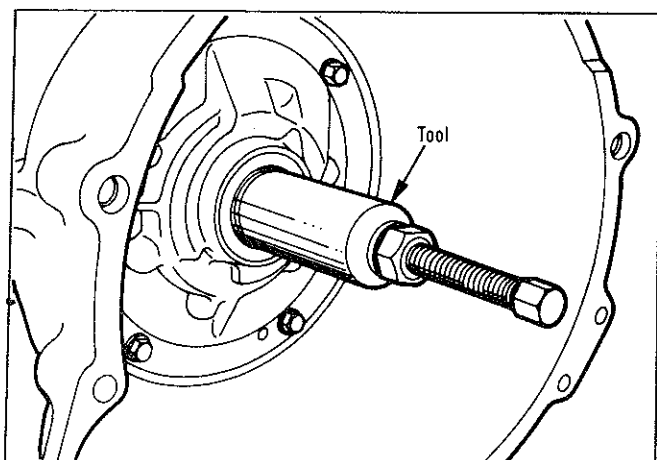

Fig. 30—Removing pump oil seal
(1) Screw seal remover Tool E21C35G into seal (Fig. 30), then tighten screw portion of tool to withdraw the seal.